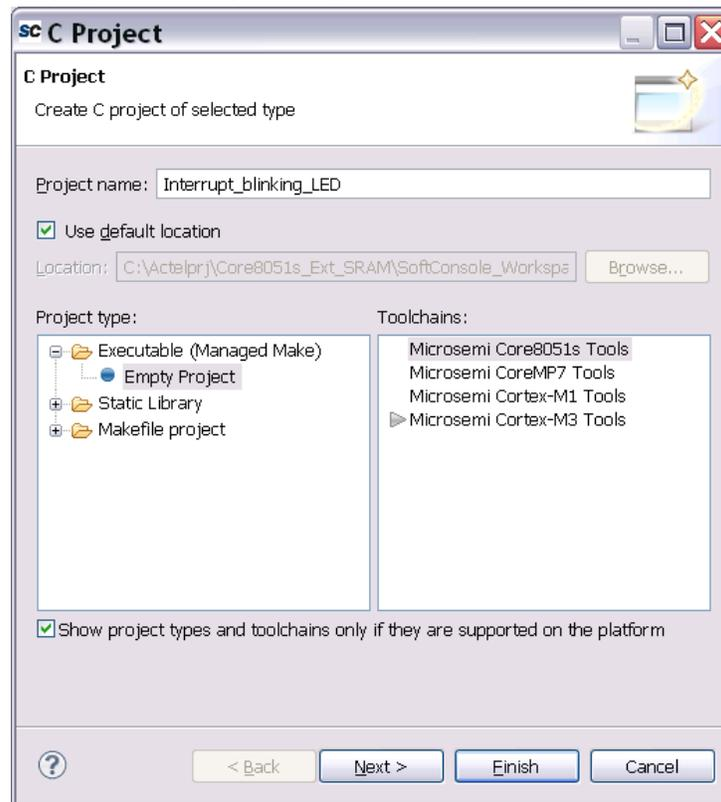

Figure 17 Selecting Project Type and ToolChains
- Name the project as `Interrupt_blinking_LED`, as shown in Figure 17.